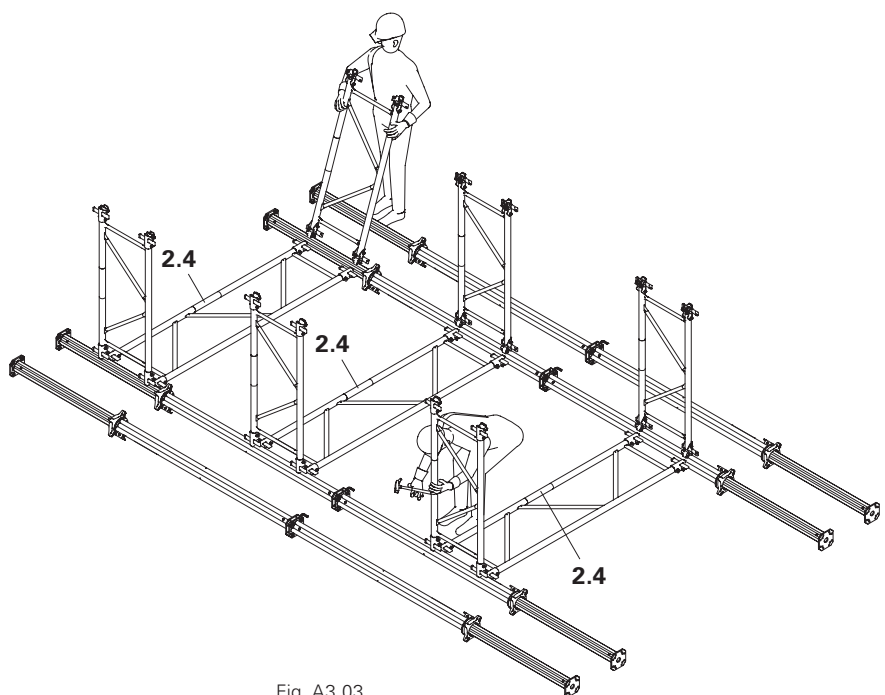

Fig. A3.03
3. Montare i telai MP MRK laterali (2). (Fig. A3.03)